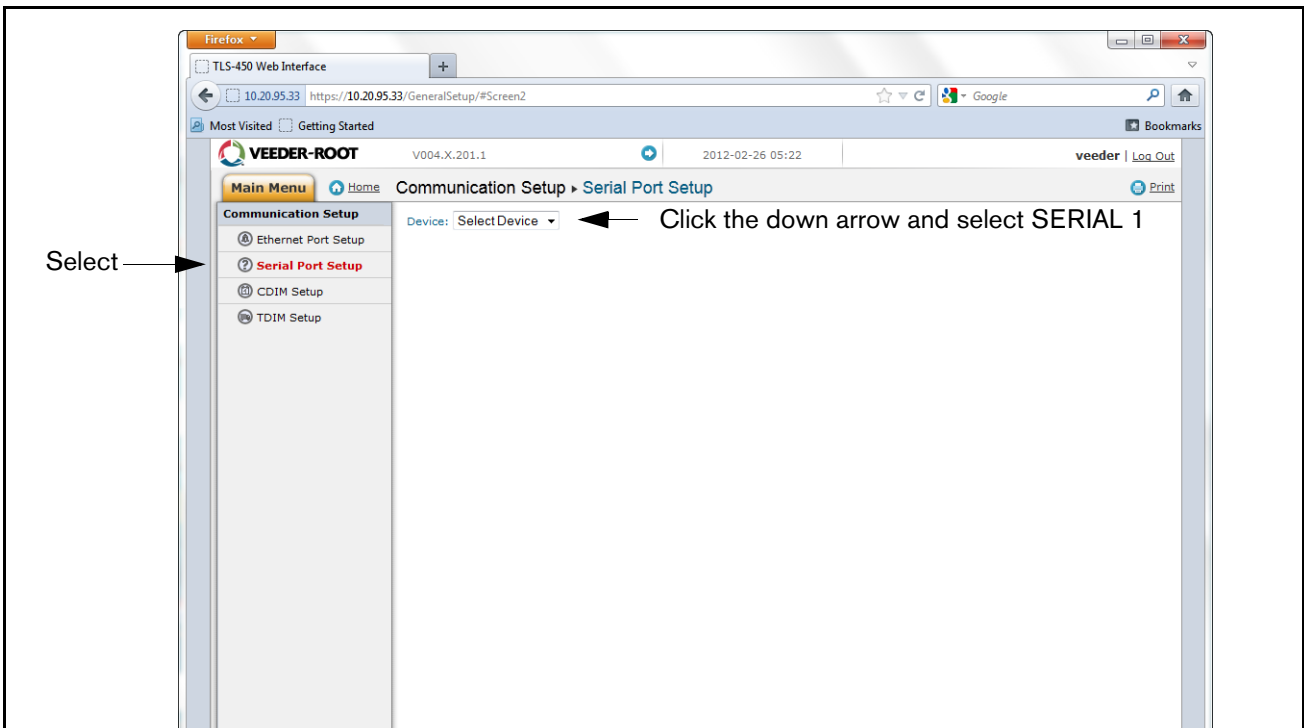
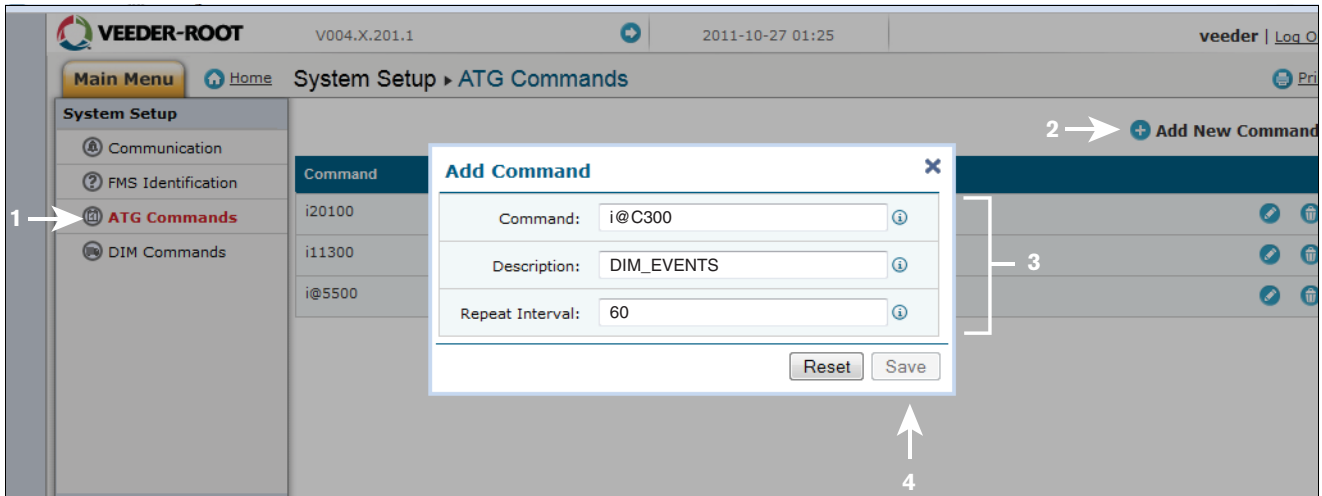

Figure 10. Switching between Data Logger Applications
Figure 13. Entering ATG Command
8. On the “Communication Setup” page, select “Serial Port” setup and for “Device” select “SERIAL 1” (see Figure 10).
Go to the “DLSetup” application by clicking on white arrow in blue circle top center of screen (see Figure 10), and under “System Setup”, click on “ATG Commands (1 in Figure 13)”. Then click on the “+ Add New Command” text at top right of screen (2 in figure). When the Add Command dialog box appears enter the command “i@C300”, add the Description “DIM_EVENTS”, set the Repeat Interval to “60” (3 in figure) and click Save (4 in figure).